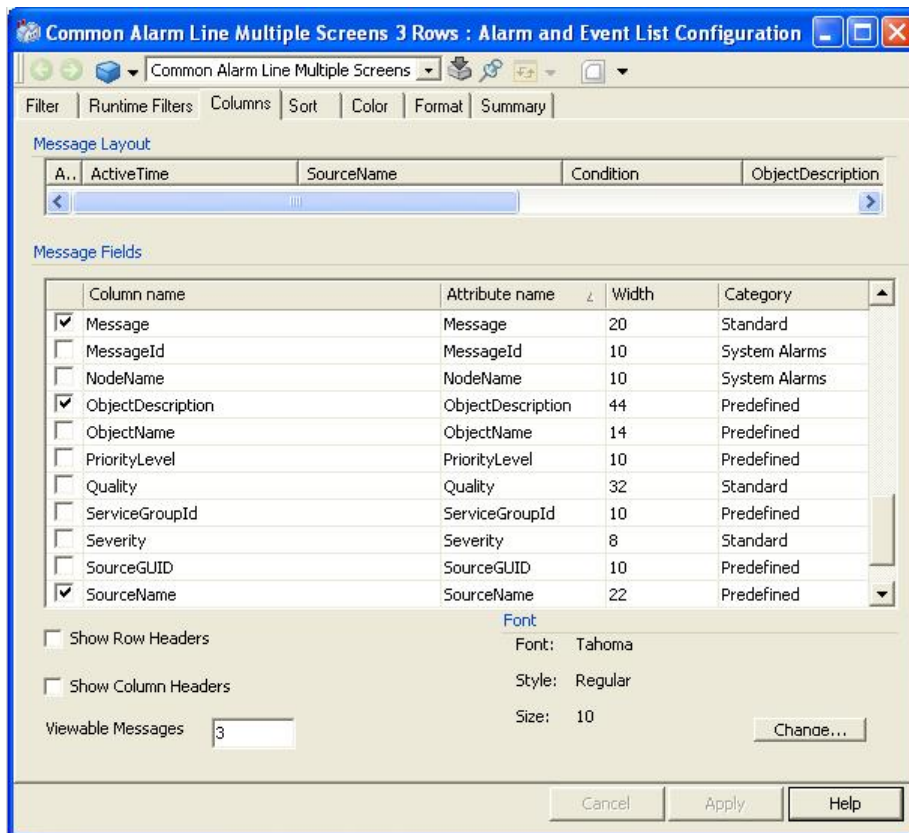

Figure 36. Common Alarm Line Multi-Screens - Alarm and Event List Configuration
- Configure the Alarm Line by opening the Alarm and Event List Configuration aspect (located in the Library Structure below the Multi Screen Configurations object) and make your settings. See Figure 36.